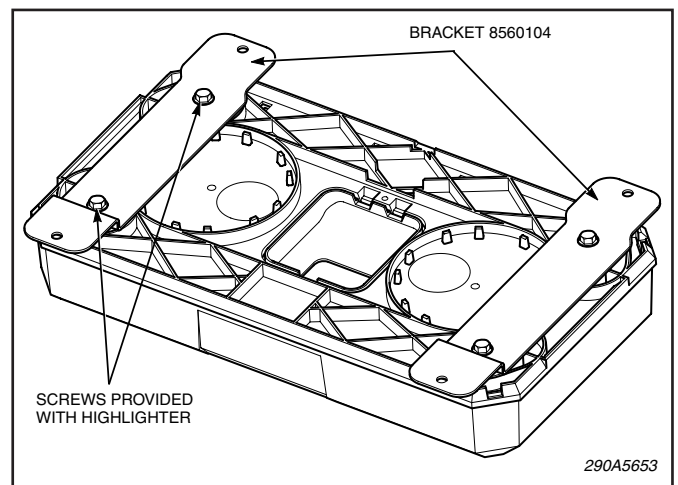

Figure 1.
- B. Attach each of the brackets to the bottom of the Highlighter as shown in figure 1. Use the hardware supplied with the Highlighter